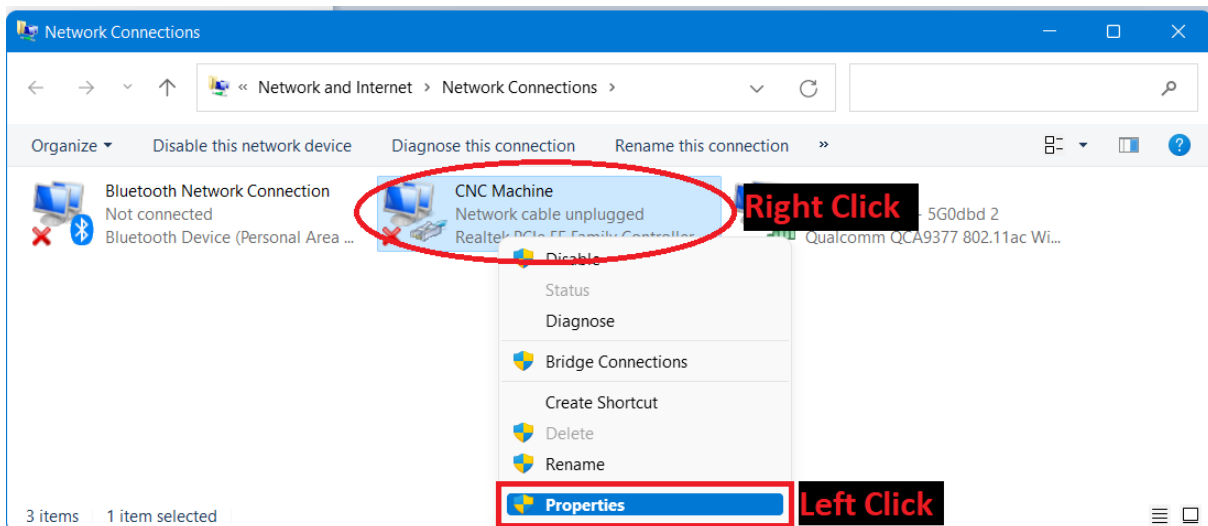

Figure 6: Network Properties
This is just a name to allow you or any PC support personal to see the connection has been renamed and edited from default settings. You can call it anything to easily identify it like “CNC” or “EXEC” or “CNC Machine”. The name does not affect the function of the machine. See Figure 6
- 3- After finding and optionally renaming the connection it is time to setup the network parameters. To setup the connection with direct cable connection to your CNC machine, right click on the renamed connection and on the pop-up window left click the Properties button. Please note that for this action to work the user must have administrator rights in the Windows account. See Figure 6.